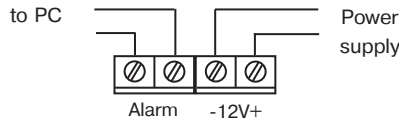

Figure 3 - Connection Pattern
- Mount the wire in accordance with Figure 3.